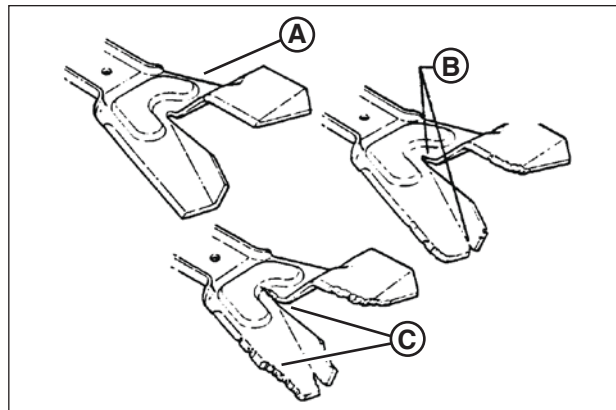

Figure 20: Ninja blade wear limits
1. Inspect the blade (**Figure 20**) frequently for signs of excessive wear or damage: